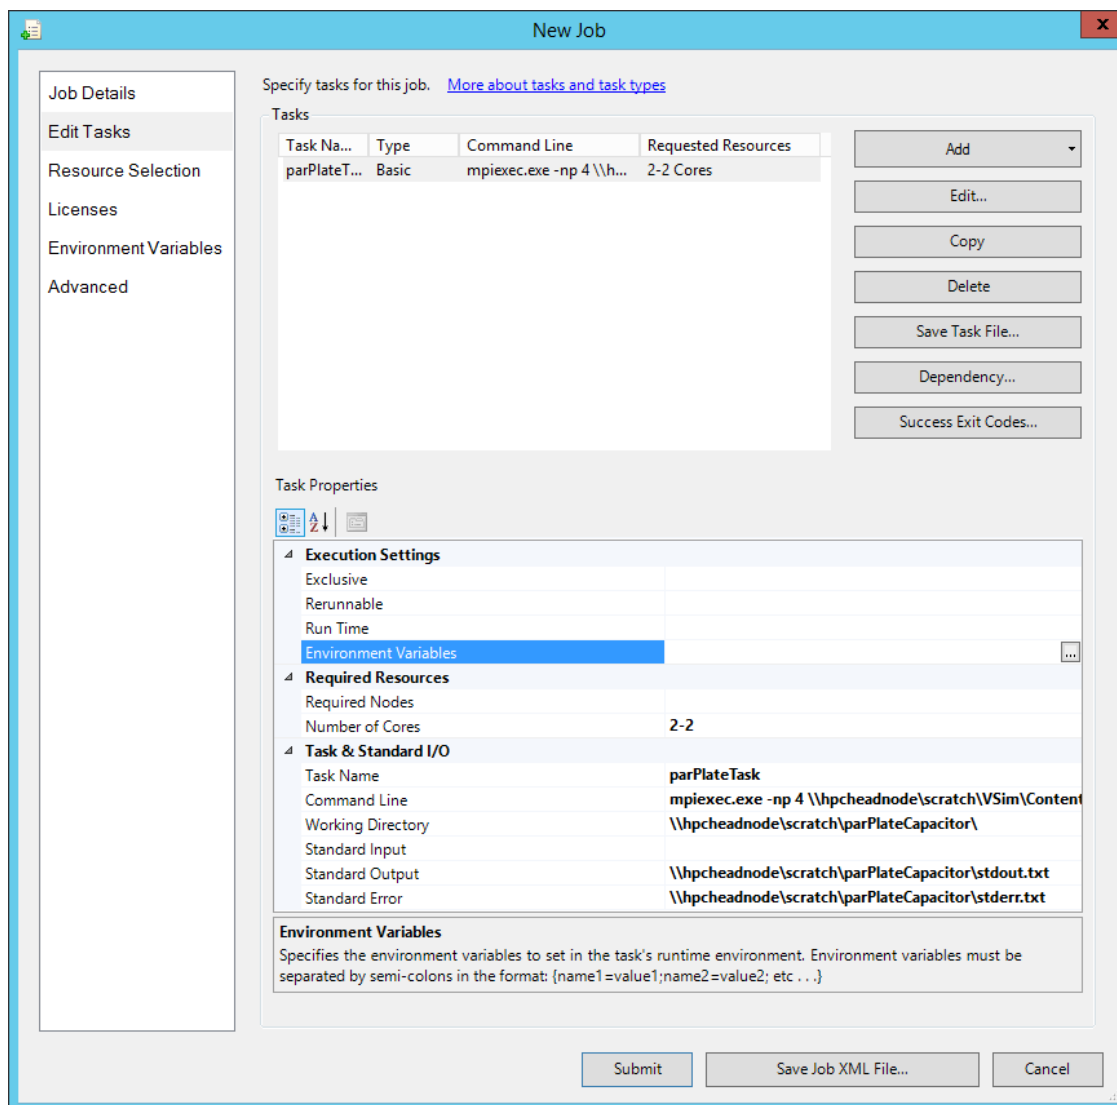

Fig. 8.19: Editing Job Properties for the task in the Cluster Manager New Job dialog.
- Click *Environment Variables* in the *Task Properties* list. Then click the ... button to the right of the line. The is highlighted in Fig. 8.19.